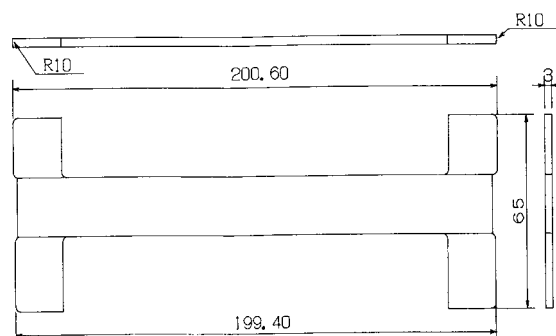

Figure 6.15 Gauge to measure receptacle diameter
- b. A gauge to measure the receptacle diameter (Figure 6.15)